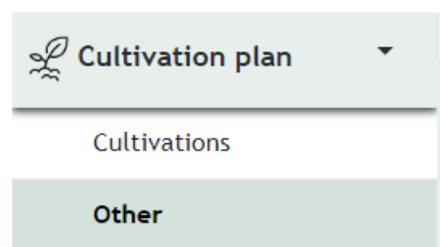

Figure 5
1. Click on 'Cultivation plan' and then on 'Other' (see figure 5).